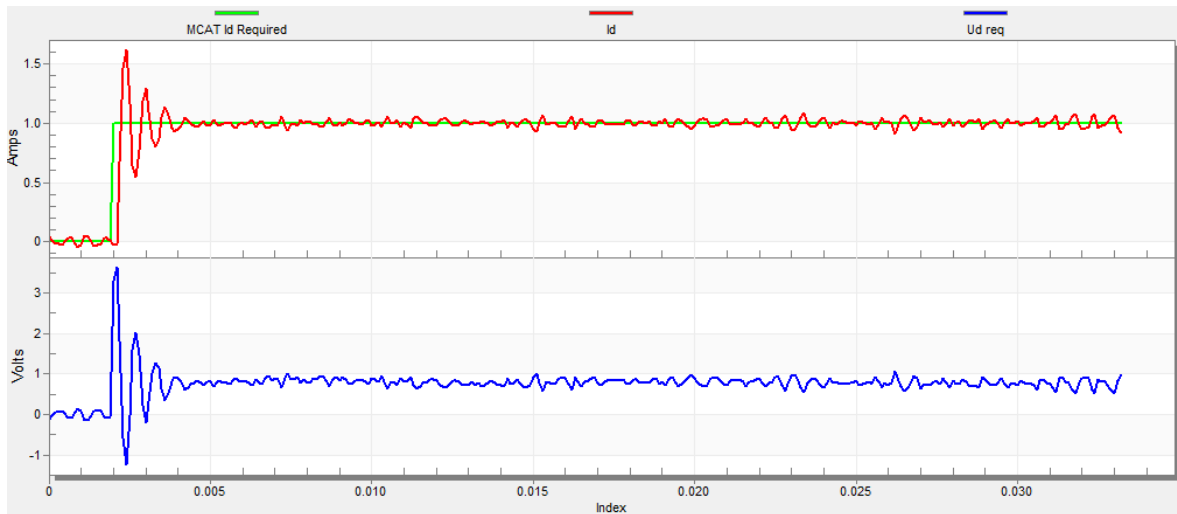

Figure 29. Fast step response of the Id current controller
- The loop bandwidth is high (700 Hz) and the response time of the I_d current is very fast, but with oscillation and overshoot (see Figure 29).